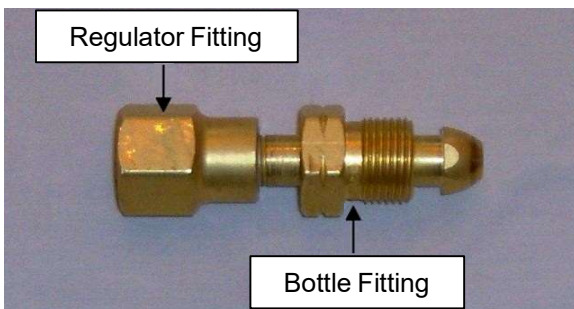

Figure 1
Head Equipment Kit have a Male right-hand thread Nut (CGA-580). A CGA-590 Industrial Air Cylinder-to-CGA-580 Nitrogen Regulator Cylinder Adapter is therefore required to connect the Pressure Regulators to the Bottle fitting. One (1) Cylinder Adapter is required for each Pressure Regulator used. **See Fig. 1.**